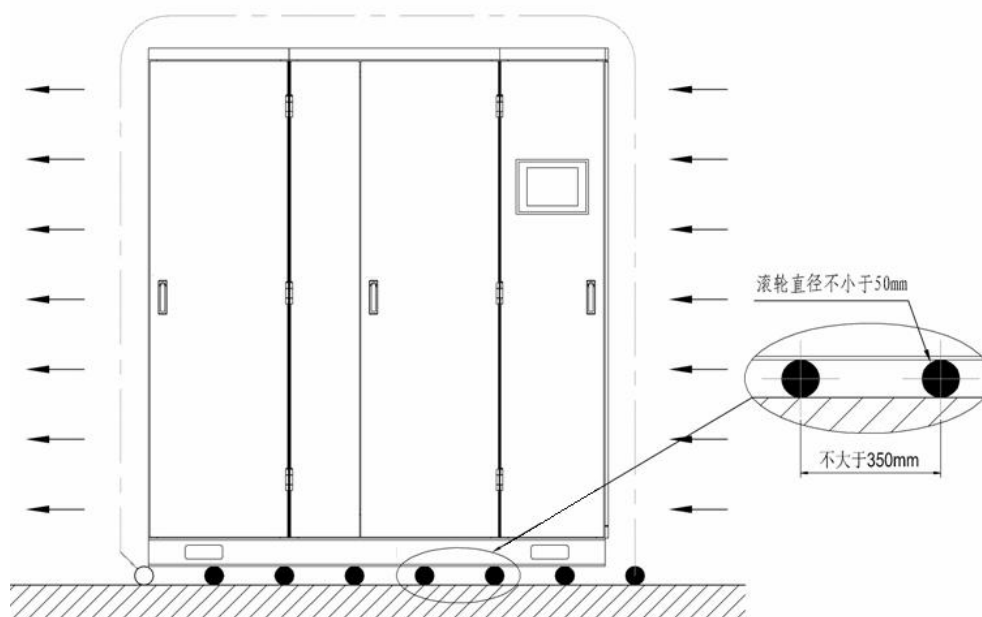

图 7.7 滚轮搬运示意图 Figure 7.7 Schematic Diagram of Roller Transport
4) 滚轮：在地板上并排放置许多滚轮，将机柜放在滚轮上面，循环移动滚轮进行搬运。滚轮的长度应大于柜体宽度。如图 7.7 所示
Roller: The schematic diagram of roller transport is shown in figure 7.7. The